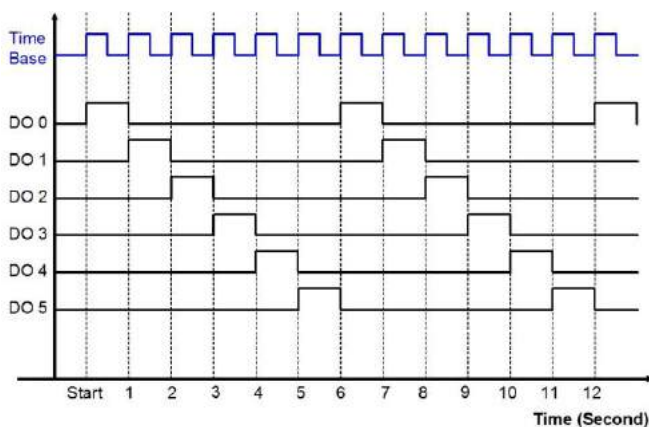

Figure 7.37: Time Chart for Sequence Control
8. Sequential Control (Turn On and Off in Sequence Continuously) This type of automation application is similar to the 3rd application we have introduced. They are both sequential control applications. For example 3, DO channel will keep its value after it is turned on. In example 8 here, after DO channel is turned on, it will be turned off after a specific time. You can see the time chart for this application by Figure 7.37 below. There is one time base needed to control the digital output sequential action. In this example, the period of the time base to turn off one DO and turn on the next-door DO is 1 second.